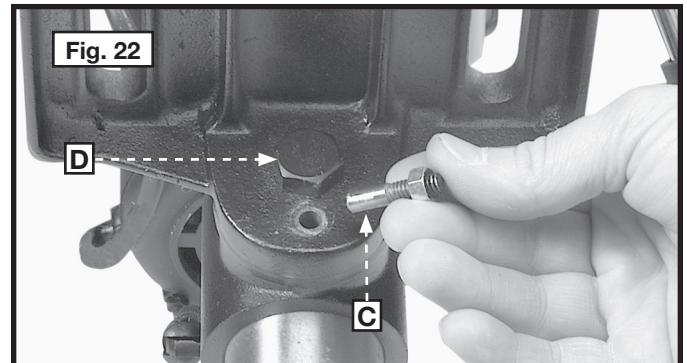

Fig. 22
4. The table alignment pin (C) is removed in Fig. 22. Loosen the table locking bolt (D), tilt table to the desired angle and tighten bolt (D). When you return the table to the level position, replace the alignment pin (C) to position the table surface 90 degrees to the spindle.